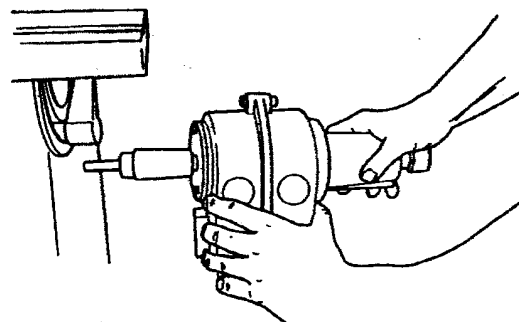

Fig.30
11. Slide the Speed Reducer's special coupler onto the bandsaw's drive hub, as in Fig.30.